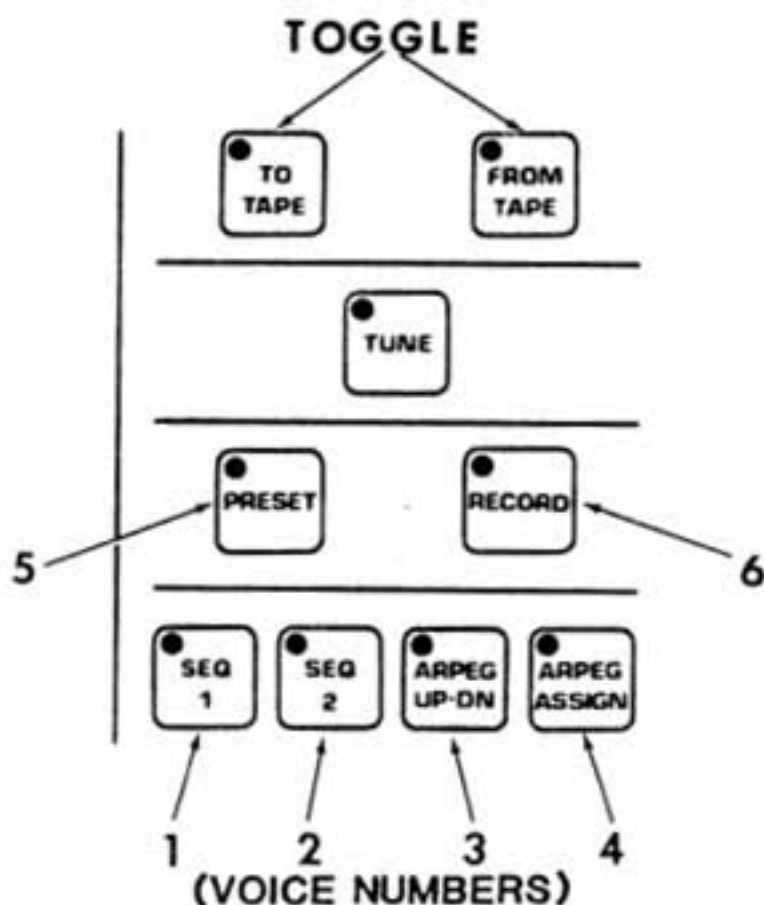

Figure 1-3
7. Either the TO TAPE or FROM TAPE LED will be lit, and the SEQ 1 LED is lit. The system is now waiting for you to trim OSC 1A. As shown in Figure 1-3, six control switches now serve to indicate which voice is being scaled. For example, SEQ 1 being lit means that Voice 1 should now be trimmed.